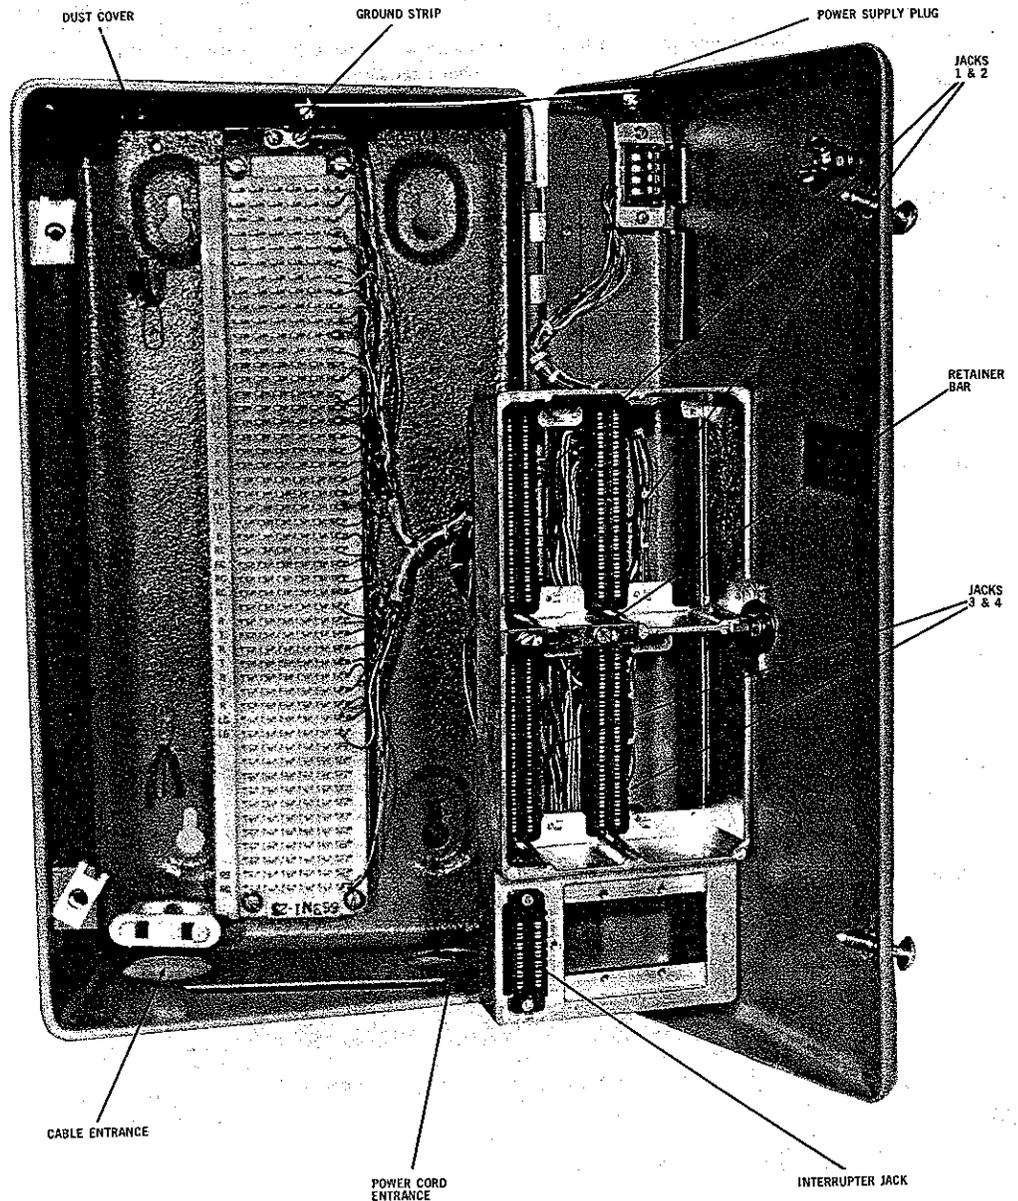

Fig. 1 -- QUJ 8A Key Service Unit
3.02 A slide bar retainer (for retaining QUN-type KTUs in their receptacles) is located between the upper and lower halves of the mounting (See Fig. 1).